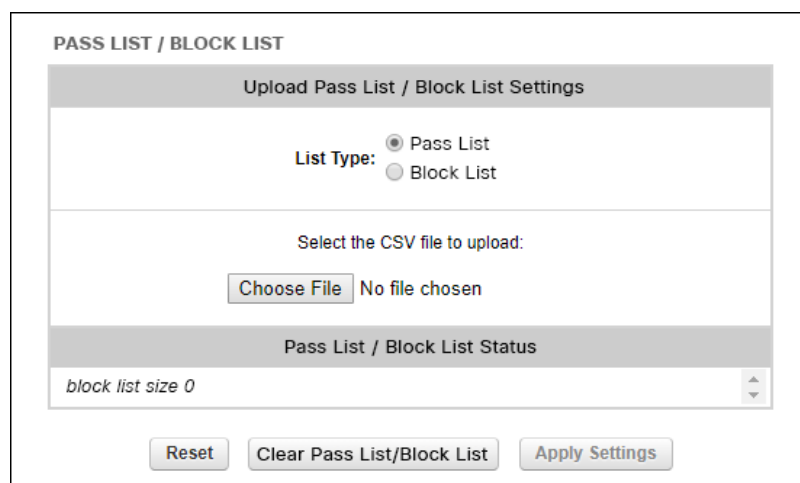

Figure 40. Configurator (Pass list / Block list dialog)
- The **Pass list / Block list** dialog will be shown (Figure 40 \(page 112\)).